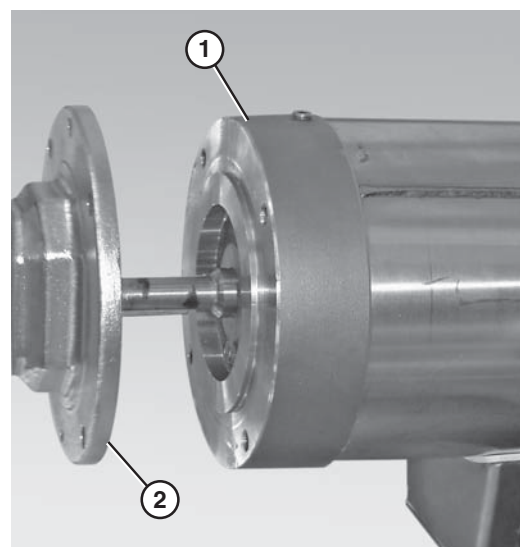

Figure 19
1. Attach the motor to the gear reducer (Figure 19).